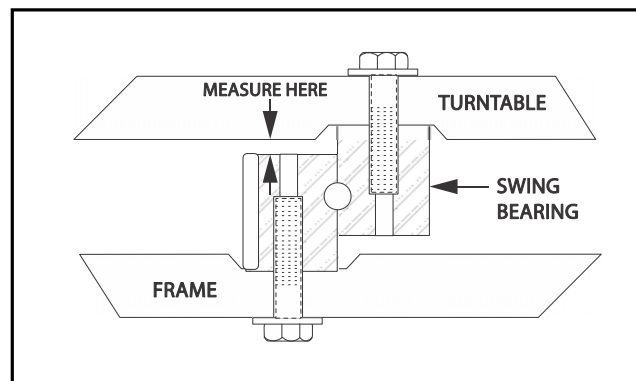
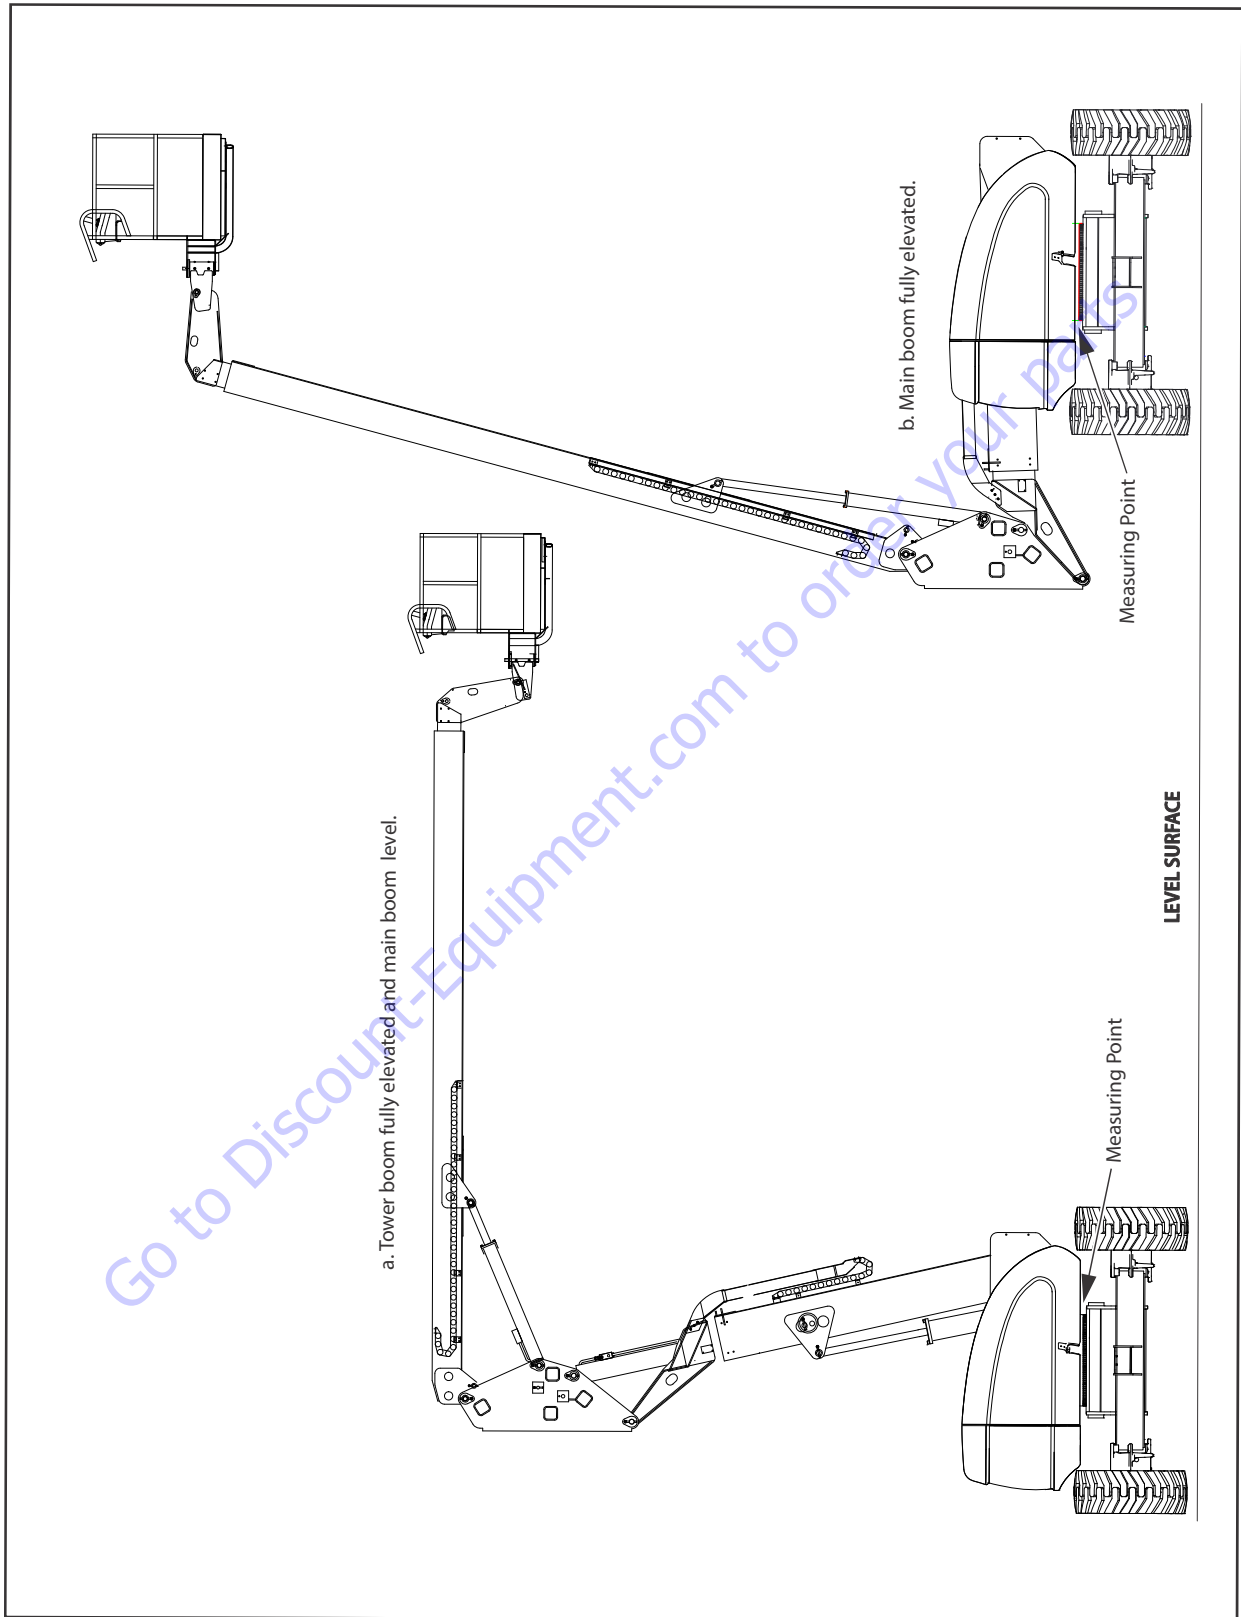

Figure 3-55. Swing Bearing Tolerance Measuring Point
Figure 3-56. Swing Bearing Tolerance Measurement Location & Boom Placement
1. From underside of the machine, at rear center, with the tower boom fully elevated and fully retracted, as shown in Figure 3-56. Swing Bearing Tolerance Measurement Location & Boom Placement A, using a magnetic base dial indicator, measure and record distance between swing bearing and turntable as shown in Figure 3-55. Swing Bearing Tolerance Measuring Point.
2. At the same point, with the main boom horizontal and fully extended, and the tower boom fully elevated as shown in the Figure 3-56. Swing Bearing Tolerance Measurement Location & Boom Placement B, using a magnetic base dial indicator, measure and record distance between swing bearing and turntable as shown in Figure 3-55. Swing Bearing Tolerance Measuring Point.